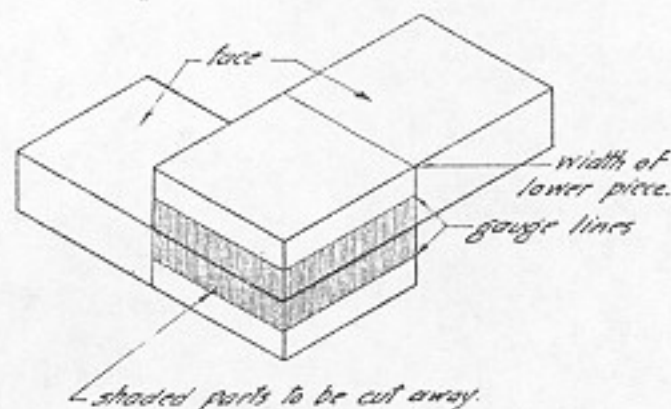
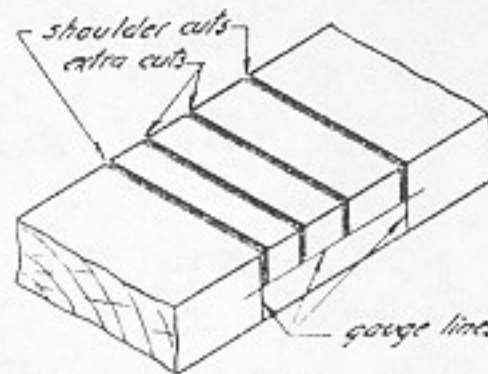

Fig. 195. Layout of end-lap joint.
Fig. 199. Shoulder and center cuts for middle- or cross-lap joints.
3. The most important thing to remember about laying out any lap joint is to *gauge from the face of each piece*. The thickness of the pieces is measured, and the marking gauge is set to half of this distance. Each member is then gauged *from the face* around the sides and end. The lower half of the upper member and upper half of the lower member are cut away as shown in Figure 195. Even if the marking gauge is not set exactly, the pieces will be flush when the joint is com-
4. One member is placed on top of the other in the position they are to occupy when the joint is finished, and the measurements and layout are checked (Fig. 195).
waste side of the lines. A few extra saw cuts between the shoulder cuts will make the chiseling easier (Fig. 199).
5. The parts to be cut away are marked (Fig. 195), and the waste wood is sawed and chiseled out as explained in Article 78, steps 4 to 7, and Figures 199, 200, and 201.